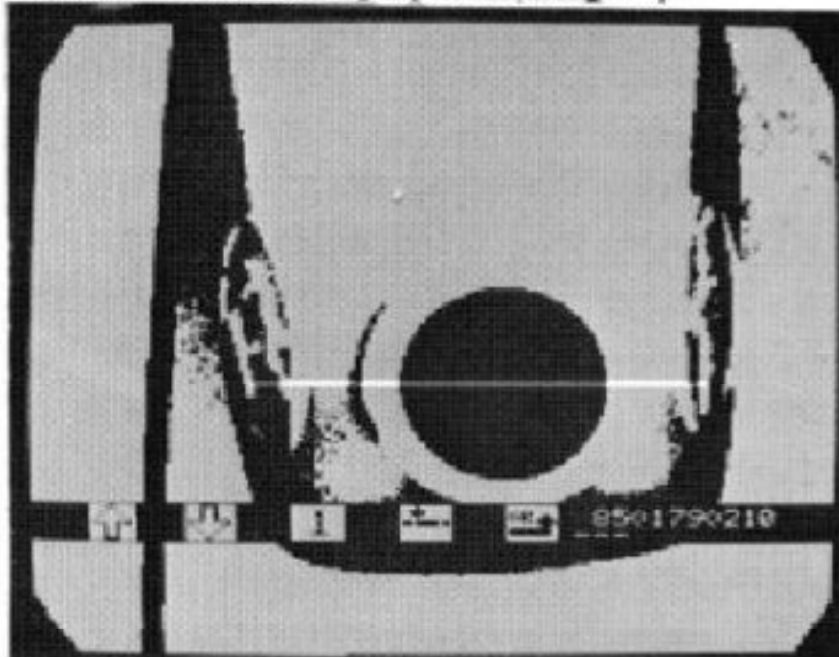

Figure 7 - X-gauge finds the neck's horizontal position.
Step 4. The horizontal (X) line gauge is placed across the neck's vertical center, and computes its horizontal (left/right) position (see figure 7).